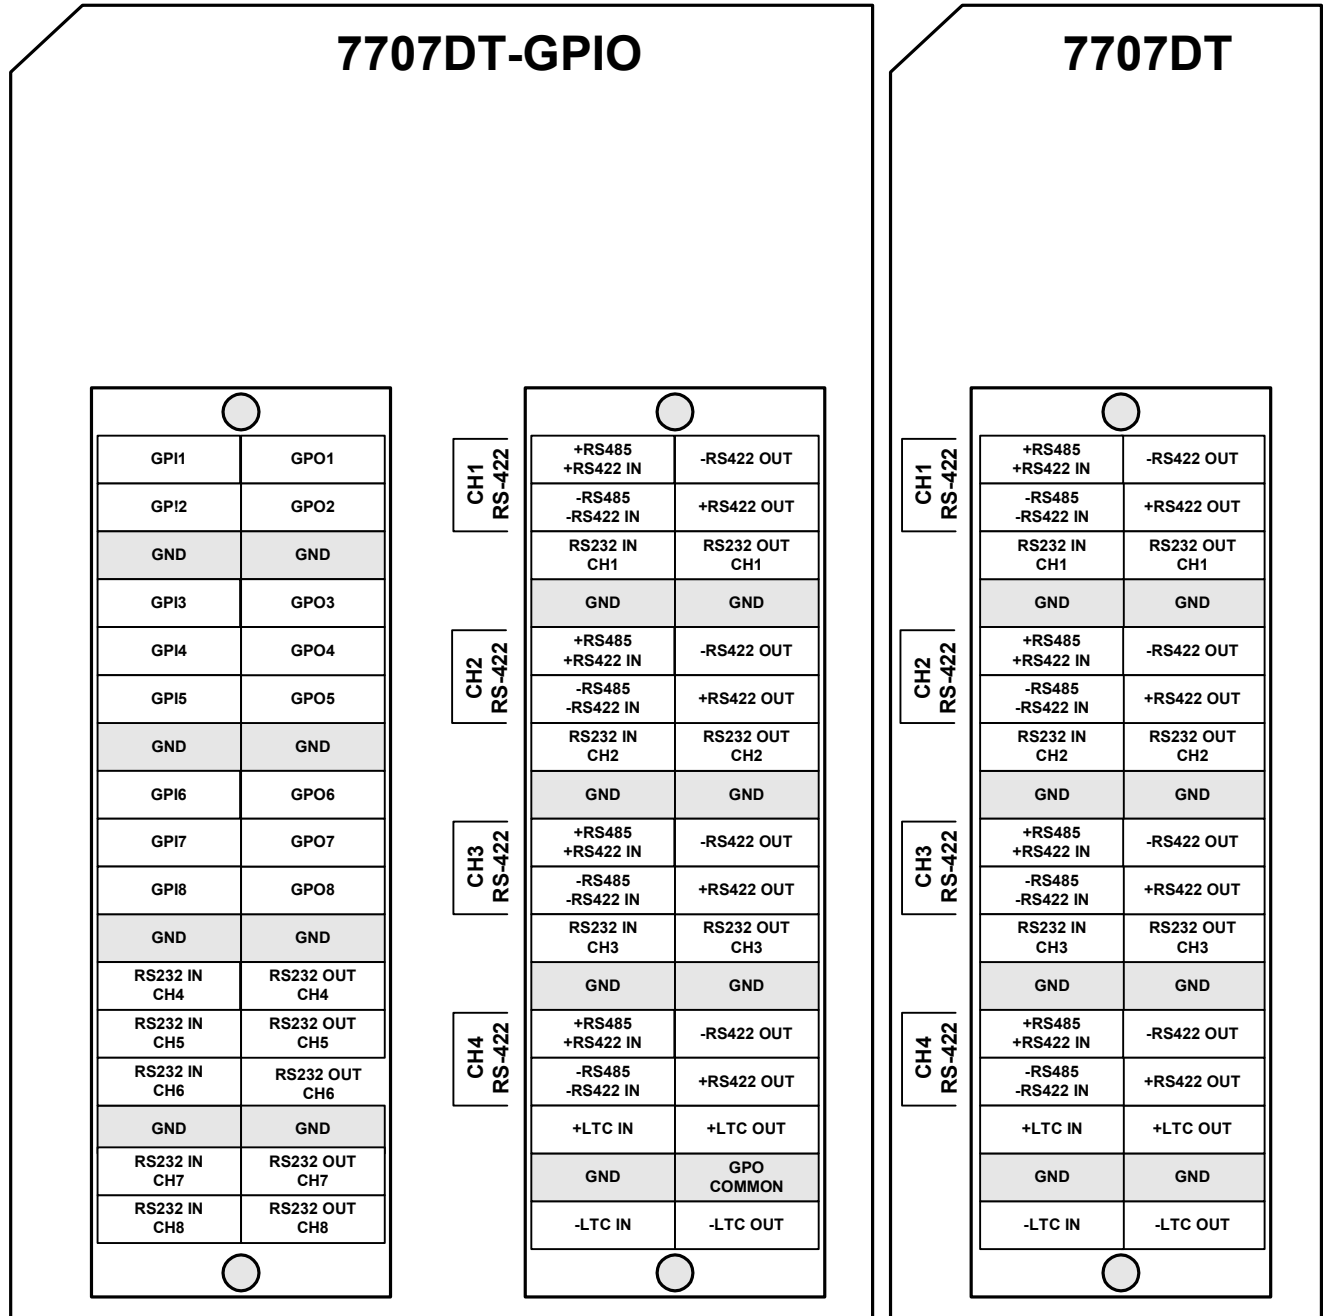

Figure 3: 7707DT Signal Connections
**SERIAL DATA / LTC** This multi-pin terminal block has the connections for bi-directional serial data and LTC. The serial data and LTC cables can be secured into the removable portion of the terminal strips using a small screwdriver. The removable part of the terminal strip is then inserted into the rear panel. Please refer to the shown in Figure 3.
Figure 3 shows the pinout diagram for the terminal blocks of both the 7707DT and the 7707DT-GPIO versions. Please note that input/output functions of RS-422/485 pins change with configuration. The following sections describe functionality of each pin designation: